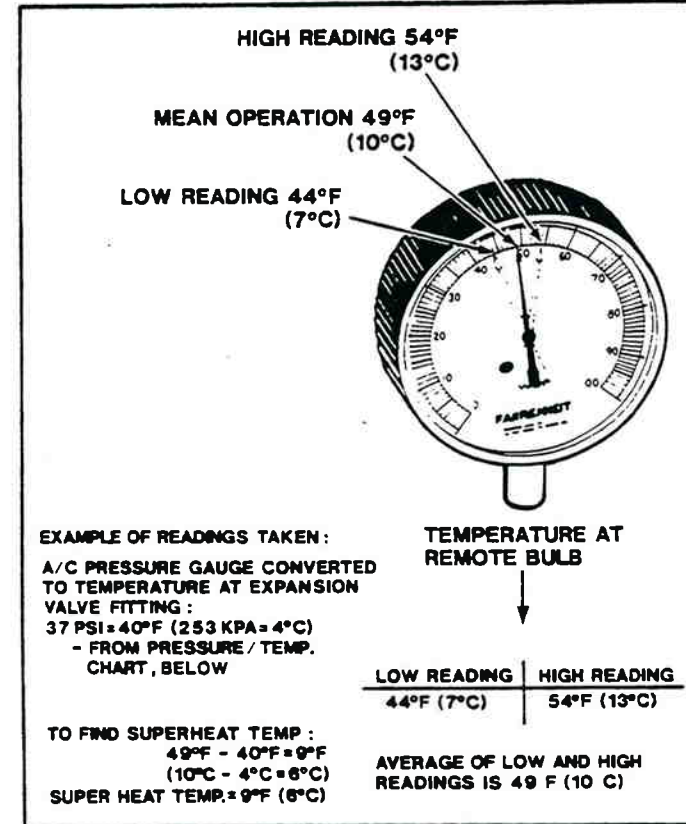

Figure 16-21: Temperature Gauge Readings
- a. At 2-minute intervals record the pressure reading and the temperature reading (figure 16-21).